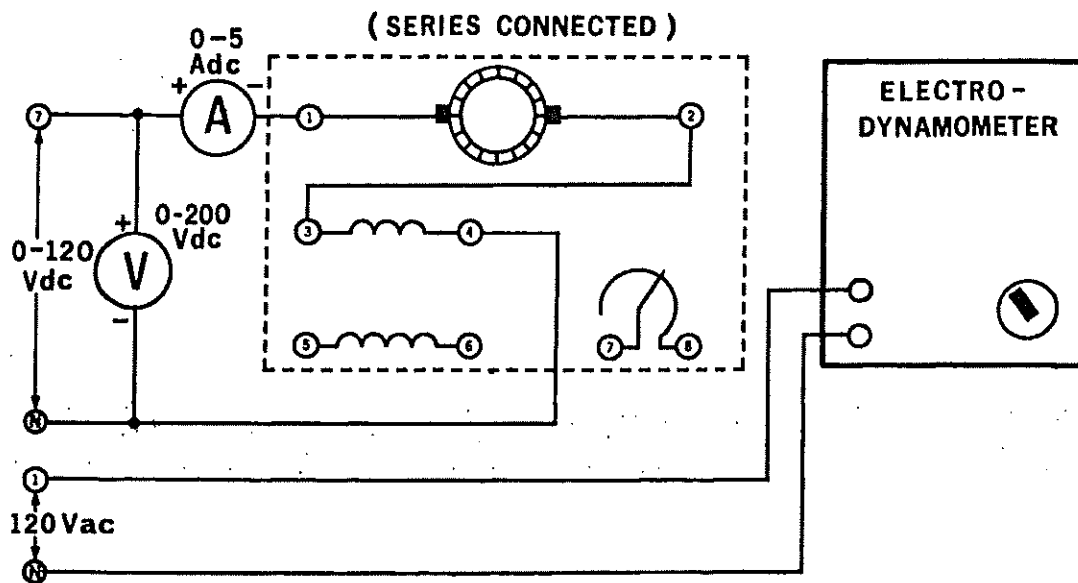

Figure 6-1.
- 1. Using your Power Supply, DC Motor/Generator, DC Voltmeter/Ammeter and Electrodynamicometer, connect the circuit shown in Figure 6-1.